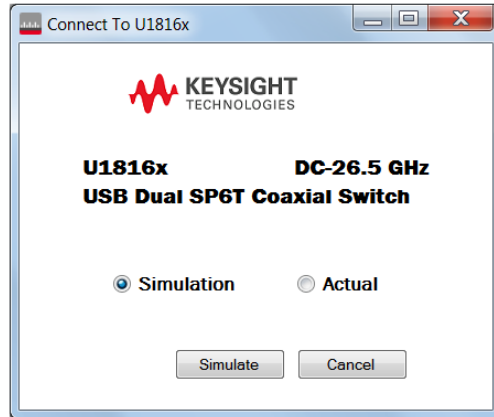

Figure 4-2 U1816A/C SFP window
-- Upon launching the SFP, the U1816A/C SFP window will appear as shown in **Figure 4-2**.
-- In the situation when the U1816A/C is not connected, the simulation mode can be used. On the U1816A/C SFP window (**Figure 4-2**), click the **Simulation** radio button. Then, click **Simulate** to access the main interface of the U1816A/C.